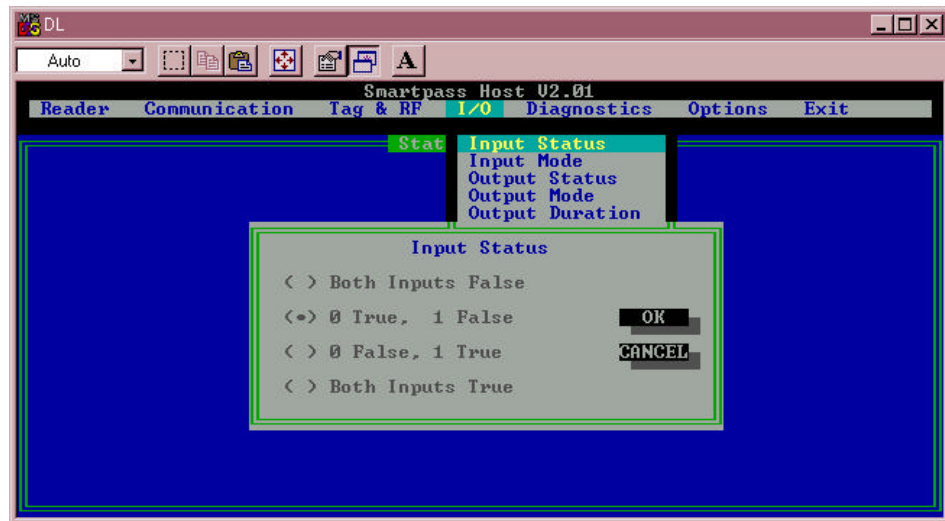

Figure 4-22 Sense Input Status Dialog Box
1. Select the **I/O** drop-down menu and click the **Input Status** option to display the current status, as shown in Figure 4-22.